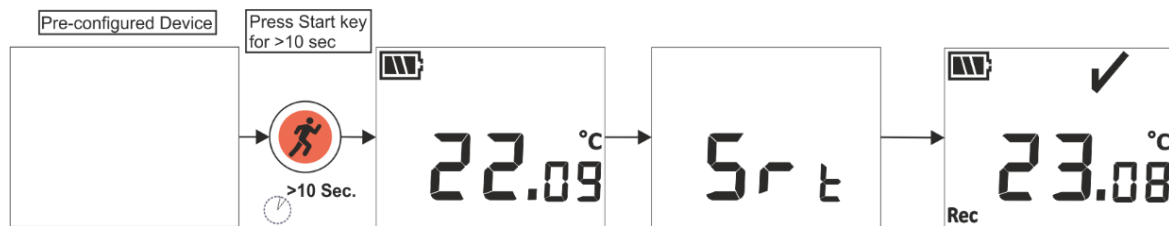

Figure 7 Start batch manually
2. User can manually start the device after batch configuration, if required by pressing “Start” key for about 10 seconds as shown in figure 7.